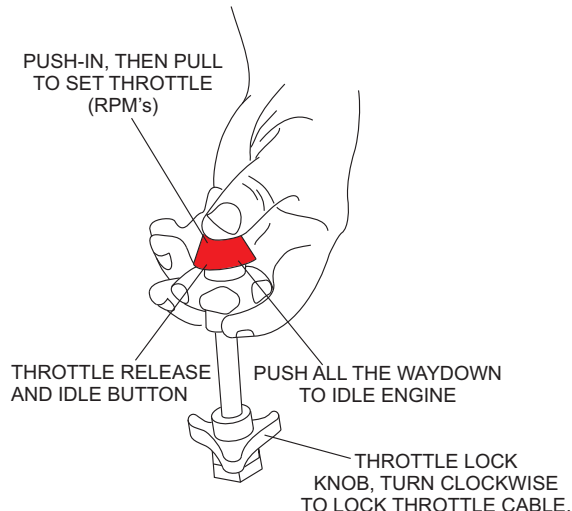

Figure 19. Throttle Control
5. **PUSH** the "RED" button (Figure 19) on the throttle control and pull the round black knob about halfway out. Make sure that the throttle lock knob has been dis-engaged.